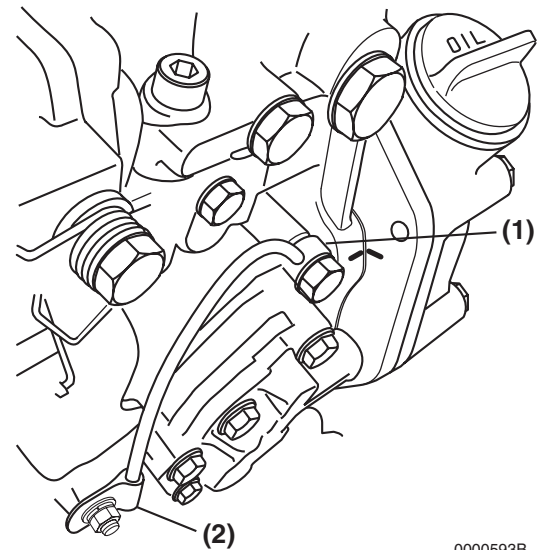

Figure 7-29
7. Reconnect the throttle linkage and the stop solenoid connector **(Figure 7-29, (2))**.
8. Reconnect the lube oil line **(Figure 7-29, (1))** and clamp **(Figure 7-29, (2))**.